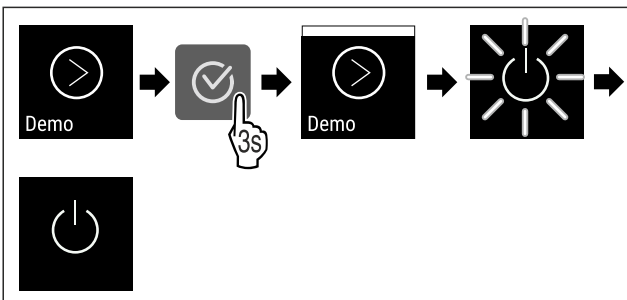

Fig. 99
- ▶ Carry out steps (see Fig. 99) .